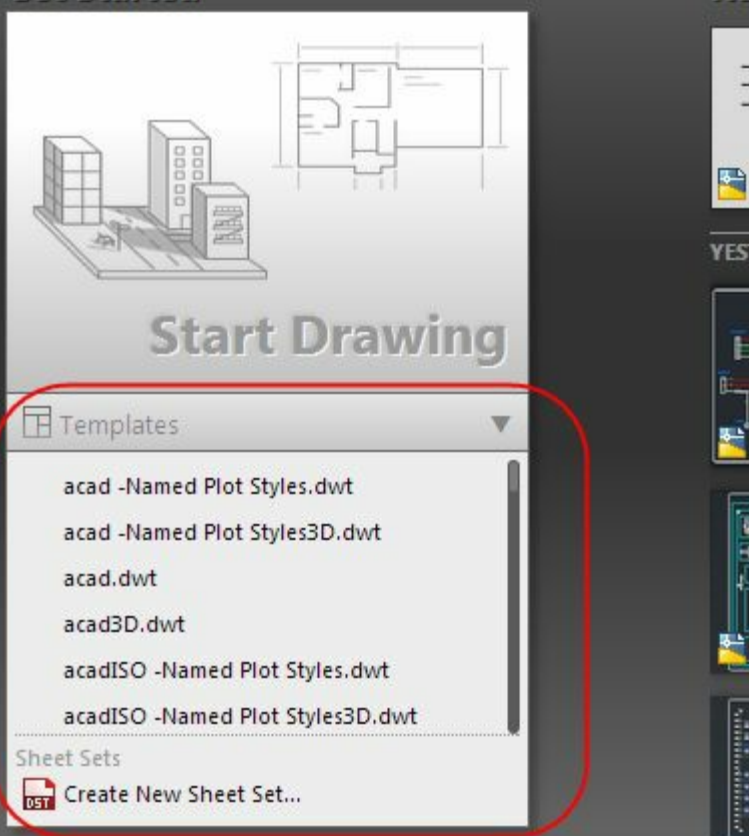

Figure-25. Drawing templates
- Click on the down arrow below **Start Drawing** button from the template area. The list of drawing templates will be displayed; refer to Figure-25.